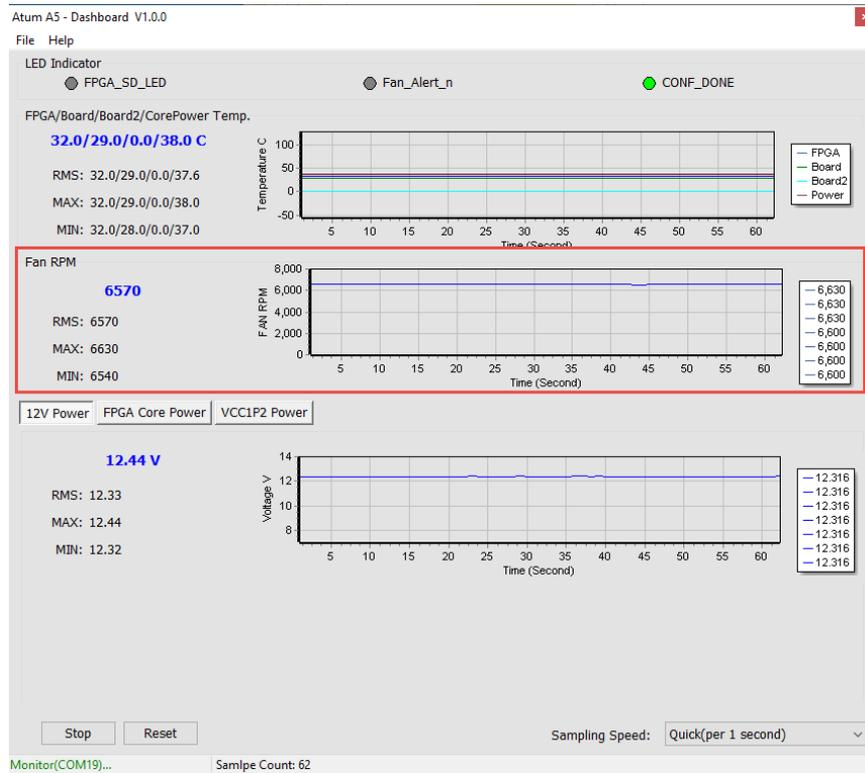

Figure 3-11 FAN RPM section
- **Fan RPM:** It displays the real-time speed of the fan on the Atum A5 board, as shown in **Figure 3-11**.